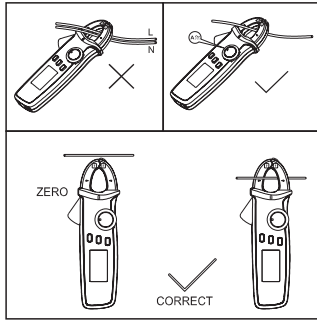

Figure 4
**3. Measuring of AC/DC Current (Figure 4)**